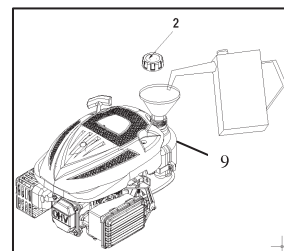

Fig. 5
1. Remove the fuel cap (2).
2. Add fuel to the bottom of the fuel level limit in the neck of the fuel tank (9). (See Fig. 5)
5. Fuel tank (9) capacity: 1.2L (0.317US gal, 0.264UK gal)